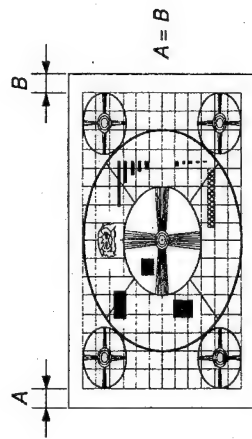

Fig. 31-3.
7. Adjust RV7 on the DA board so that the blanking width at the right and the left sides are equal to as shown in Fig. 31-3.